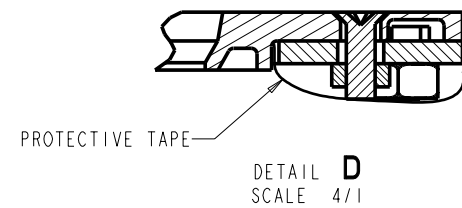

FIGURE 1
PROBLEM (FIG 1)
**PROBLEM (FIG 1): THIS DESIGN CAUSES THE TOUCH SYSTEM TO TILT.** THE PROPER OPTO ALIGNMENT IS NOT ACHIEVED DUE TO EXTRA WIDTH OF TAPE/GASKET MOUNTED TO CUSTOMER PANEL. SEE SOLUTIONS BELOW.
APPLY PROTECTIVE TAPE TO THE TOUCH SYSTEM AS SHOWN IN FIGURE 1, BETWEEN CIRCUIT BOARDS AND INSERT ON ALL 4 SIDES, LAY THE TAPE OVER THE CIRCUIT BOARDS, TO PROTECT THE CIRCUITRY FROM THE ADHESIVE DURING APPLICATION AND CURING.